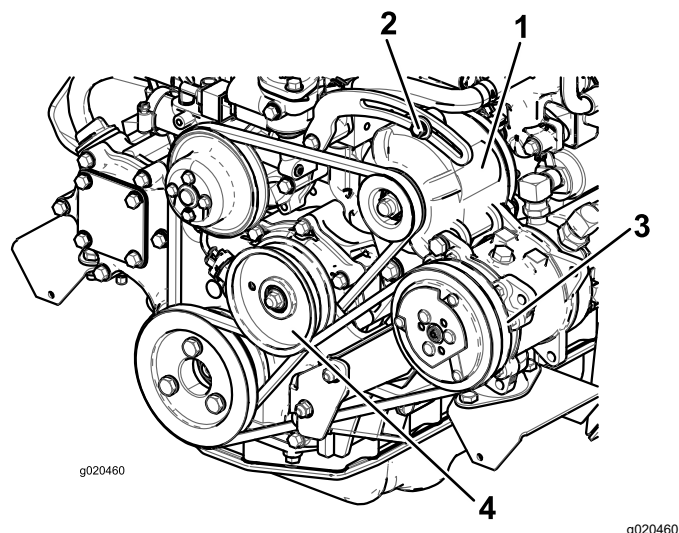

Figure 75
If the deflection is not 10 mm (3/8 inch), loosen the alternator-mounting bolts (Figure 75).
2. If the deflection is not 10 mm (3/8 inch), loosen the idler pulley mounting bolt (Figure 75).